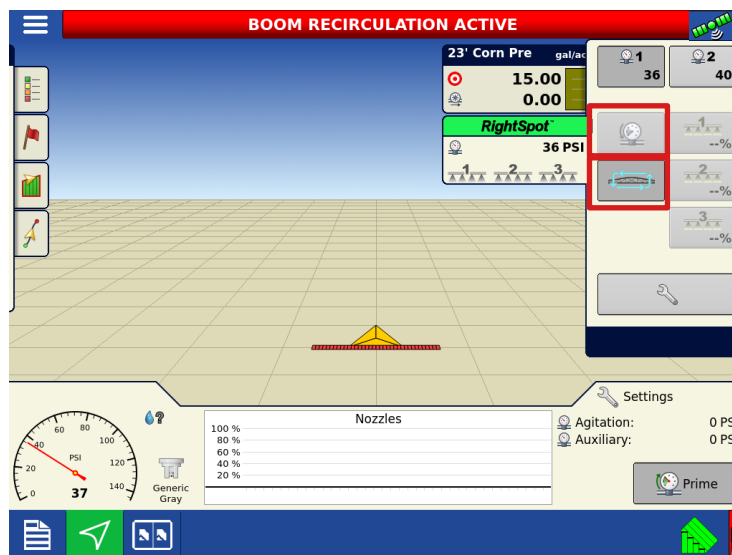

Figure 3 – Active Boom Recirculation & Boom Pressure Relief from the RightSpot® control tab
- **NEW:** Active Boom Recirculation (RightSpot™) (Figure 3)
- **NEW:** Boom Pressure Relief (RightSpot™) (Figure 3)